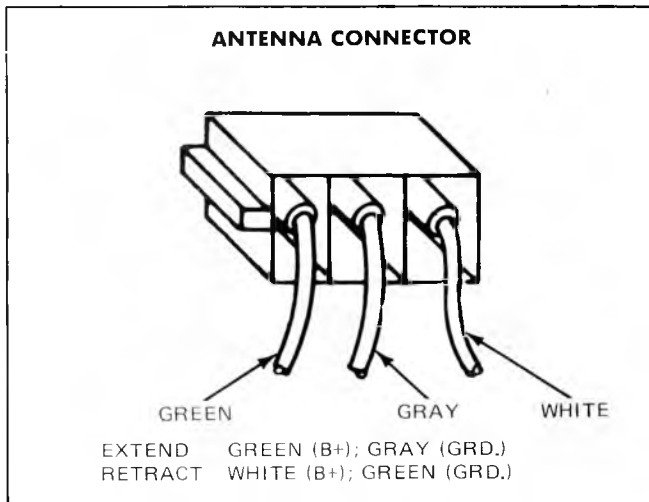

Fig. 9-15R--Bench Connections
2. Connect power source (12V) to antenna wires to run cable into the gear box (fig. 9-15R).
3. Using the scribe marks made in Step 1 under "Removal", assemble the support tube on the gear box in the same position as the original and install the two (2) retaining screws. Torque the screws to 1.6-2.4 N·m (14-21 in.lbs).
- If mast doesn't fully extend, operate system to retract the mast. When mast is fully retracted, allow motor to continue running until the internal limit switch in the motor gear box shuts the motor off. Then recheck complete operation Refer to Figure 9-15R for bench operation procedure.